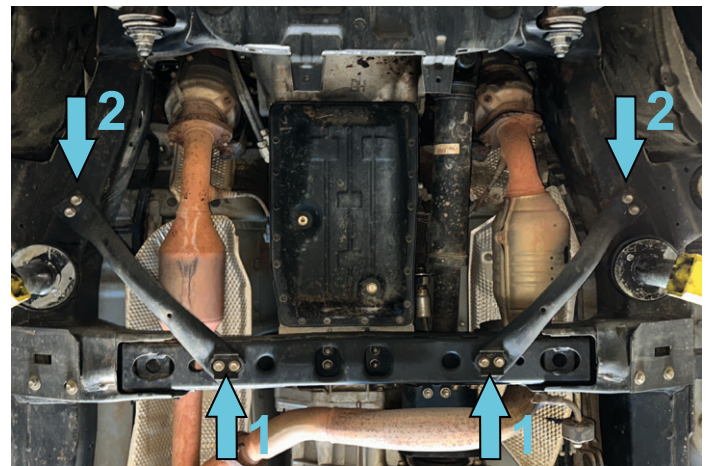

Fig.2
2.2 - Loosen 4 factory bolts from skids/crash bars as marked in fig.2.